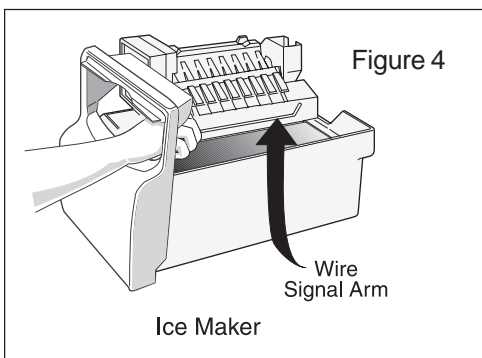

Figure 4
8. To begin ice production, lower the Wire Signal Arm to the "down" or "ON" position (Figure 4).